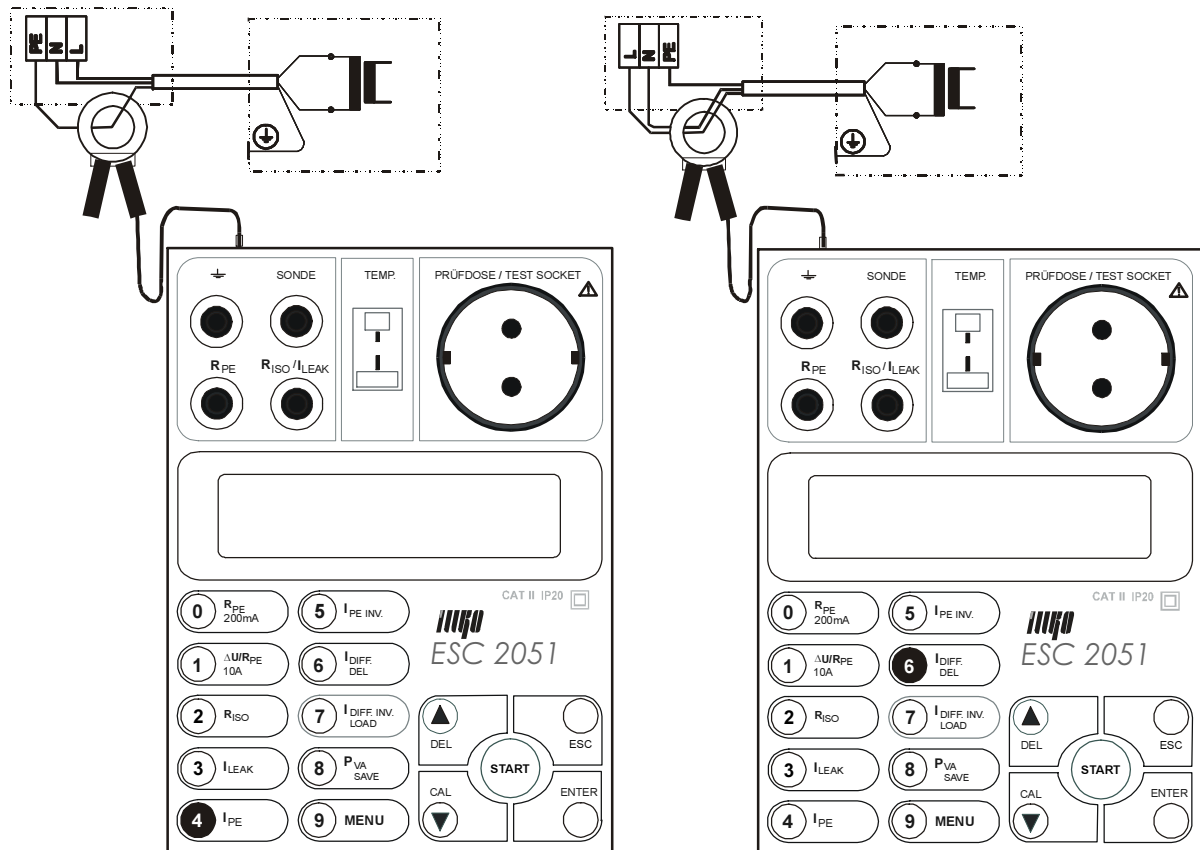

Fig. 13
- Enclose either protective conductor (PE current during operation measurement) or L+N conductors (differential leakage current measurement) with current clamp (Fig. 13).